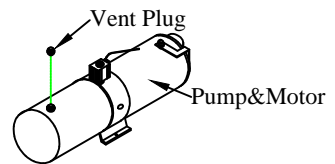

Figure 20: Vent plug.
- 1. Unscrew** the solid plastic plug from the pump reservoir and **Install** the vent plug provided (Figure 20).